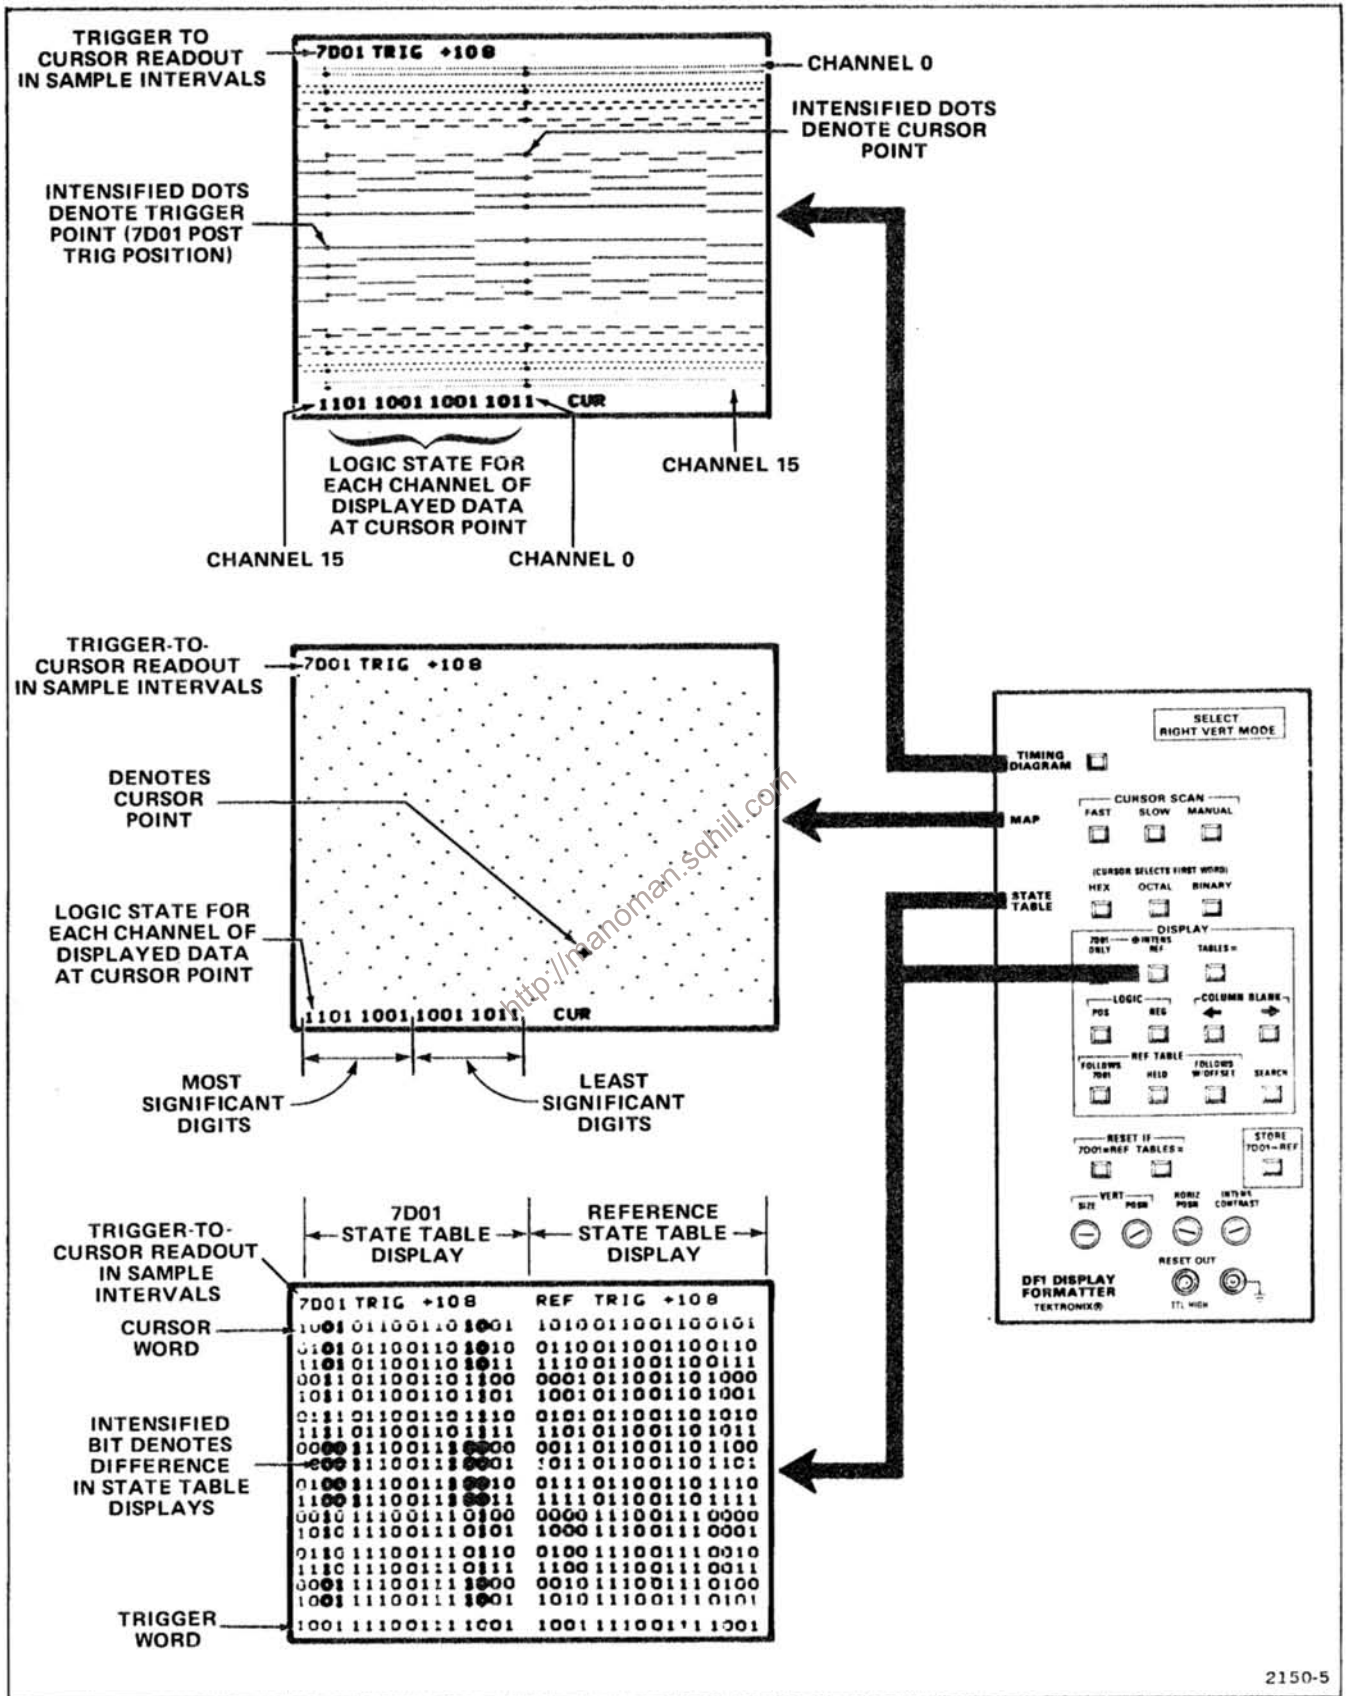

Figure 2-3. Typical DF1 Display Modes.
The DF1 displays digital data in 3 Display Modes: Timing Diagram, Map, and State Table. Figure 2-3 shows the controls required to activate typical DF1 displays.
The front-panel TIMING DIAGRAM push button selects the Timing Diagram display (4, 8, or 16 channels) from the companion 7D01 Logic Analyzer (see Fig. 2-3). The cursor function of the 7D01 provides an intensified zone on the data display and a corresponding numerical readout display shows the logic state for each displayed channel of data. The position of the cursor, relative to the trigger, is also displayed on the crt readout. Refer to the 7D01 manual for more information on the 7D01 Logic Analyzer.
The Map function provides a view of the 7D01 memory displayed as x-y coordinate dots on the crt. The vertical axis represents the most significant half of the data word and the horizontal axis represents the least significant half (see Figure 2-3).
displayed. If the trigger word is displayed in the first 17 words of the state table, it is indicated by a blinking condition. The position of the cursor, relative to the trigger, is also displayed on the crt readout (see Figure 2-3).
7D01 \oplus INTENS REF. Two state tables are displayed simultaneously on the crt. The state table from the 7D01 is displayed on the left half of the crt and a reference state table is displayed on the right half of the crt (see Figure 2-3). When the 7D01 \oplus INTENS REF is initially selected, the STORE 7D01 \rightarrow REF push button must be pressed to load the reference memory. Any differences between the 7D01 and reference state tables are indicated by intensified bits at the appropriate location in the 7D01 state table. Any differences in the state tables due to old data, indeterminate data, end data, or blanked columns, is interpreted as "don't care" conditions and are not intensified in the 7D01 state table (refer to the Glossary in the General Information section). If there are no differences between state tables, the TABLES= indicator is illuminated.
2. Check crt display for a 16-channel timing diagram (refer to Fig. 2-3). It may be necessary to adjust the mainframe